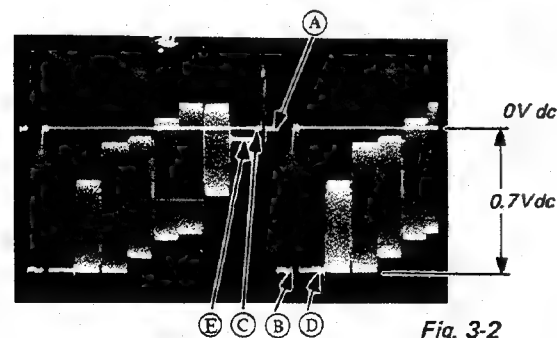

Fig. 3-2
7. Adjust FRONT BRT VR so that (A) (black level) is 0V DC as shown in Fig. 3-2.
8. Adjust FRONT CONT VR so that (B) (100% white level) is -0.7V DC as shown in Fig. 3-2.